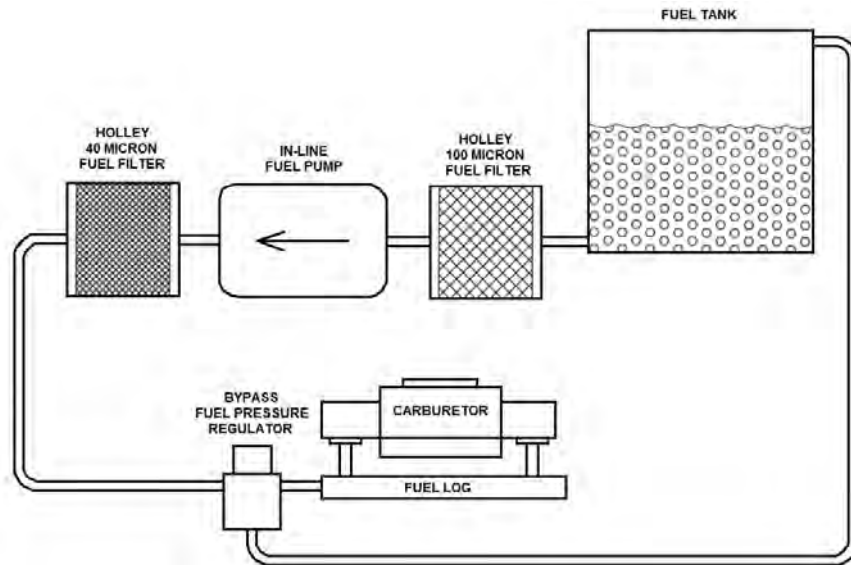
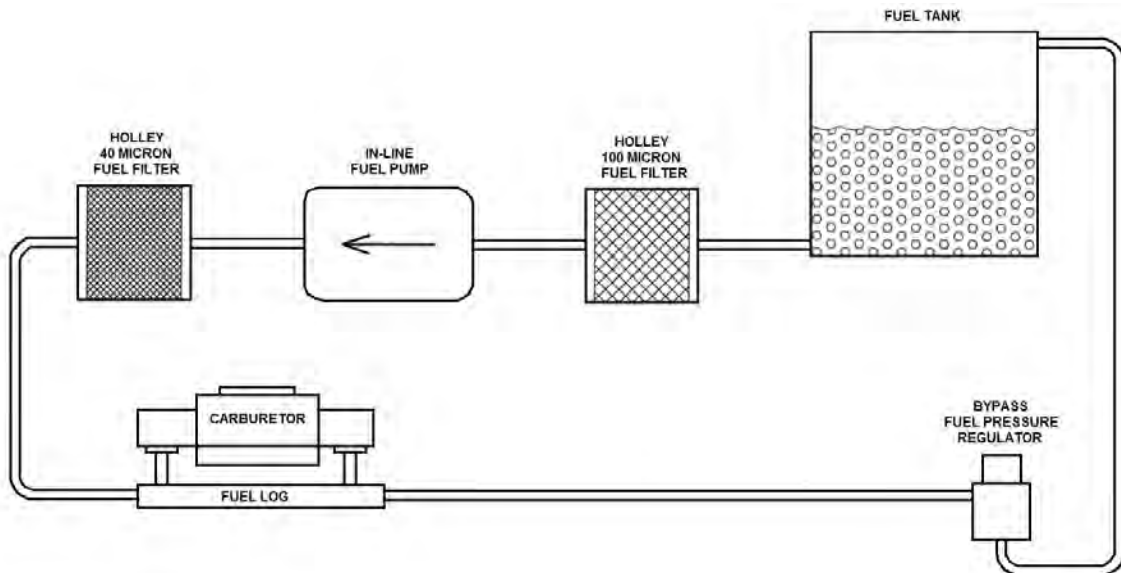
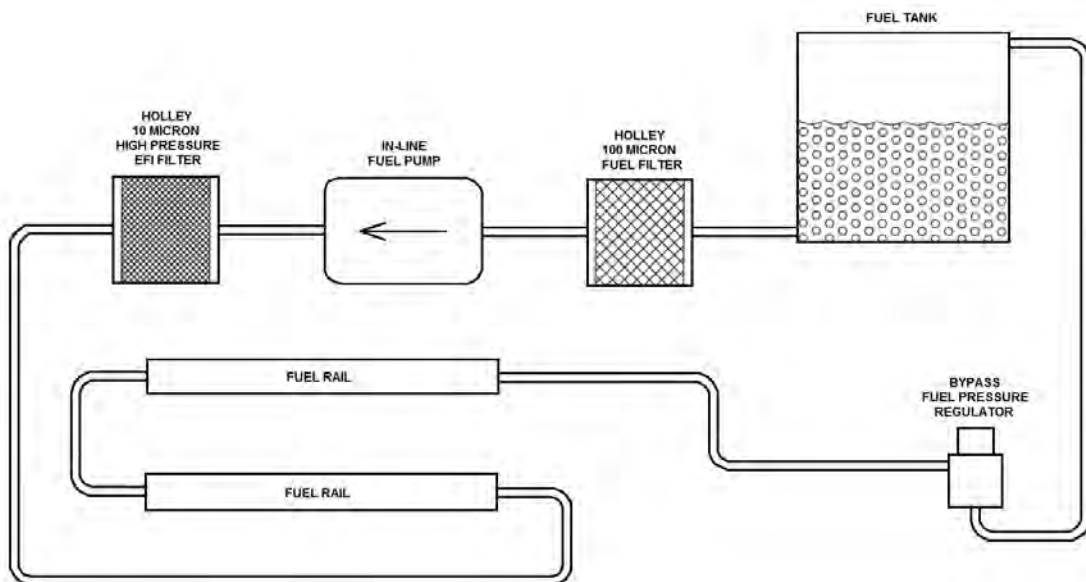

Figure 2a (Carburetor Only)
Figure 2b (Carburetor Only)
Figure 2c (EFI Only)
4. Connect the outlet of the regulator to the carburetor (if the regulator is installed before the carburetor **per Figure 2a**). If the regulator is installed after the carburetor (**Figure 2b**) or EFI (**Figure 2c**), the outlet needs to be plugged.
**WARNING! TURNING THE ADJUSTMENT SCREW ALL THE WAY IN WILL RESULT IN EXCESSIVE FUEL PRESSURE AND CAUSE THE CARBURETOR TO FLOOD. A FLOODED CARBURETOR CAN CAUSE A FIRE AND/OR EXPLOSION RESULTING IN PROPERTY DAMAGE, SERIOUS INJURY, AND/OR DEATH. ALWAYS USE A FUEL PRESSURE GAUGE BETWEEN THE REGULATOR AND THE CARBURETOR(S) WHEN ADJUSTING THE FUEL PRESSURE REGULATOR.**